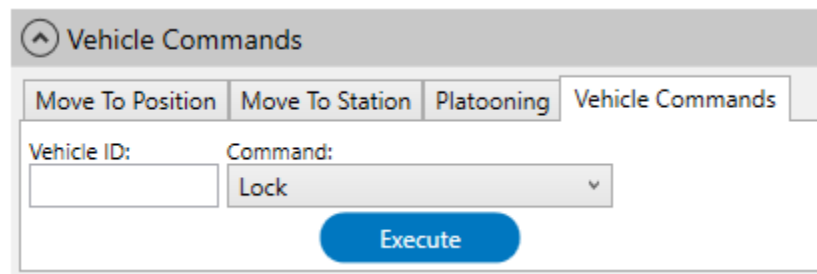

Figure 2-47: Vehicle Commands – Vehicle Commands, Lock
*The **Vehicle Commands** tab is displayed as shown in Figure 2-47. The Command Menu defaults to Lock or the last command selected.*